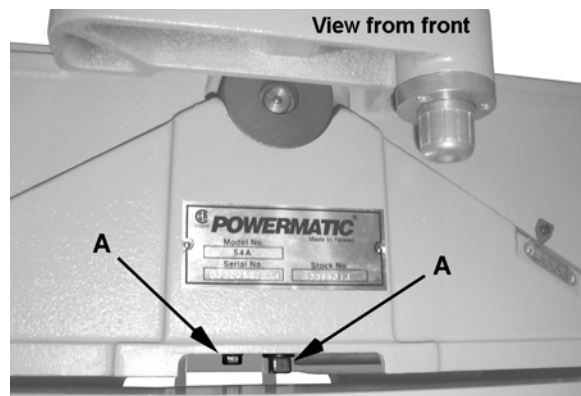
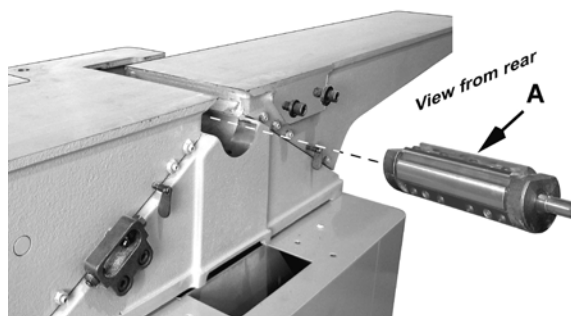

Figure 50
Figure 51
6. Using an 8mm hex wrench, loosen two hex cap screws underneath *fence base casting* (E) that secure the casting to the *table* (F). Remove the *fence base casting* and set aside.
7. Remove four *screws* and *washers* (A) securing the *belt guard* (B). Remove the *belt guard*.
8. Using a 14mm wrench, remove two screws (A, Fig. 50) and *lock washers* that secure the cutterhead bearing housings to the base.
9. Using a 3mm hex wrench, loosen two set screws that secure the cutterhead pulley (D) to the cutterhead shaft. Do not attempt to remove pulley with belt at this time.
11. Carefully remove the cutterhead (A, Fig. 51).